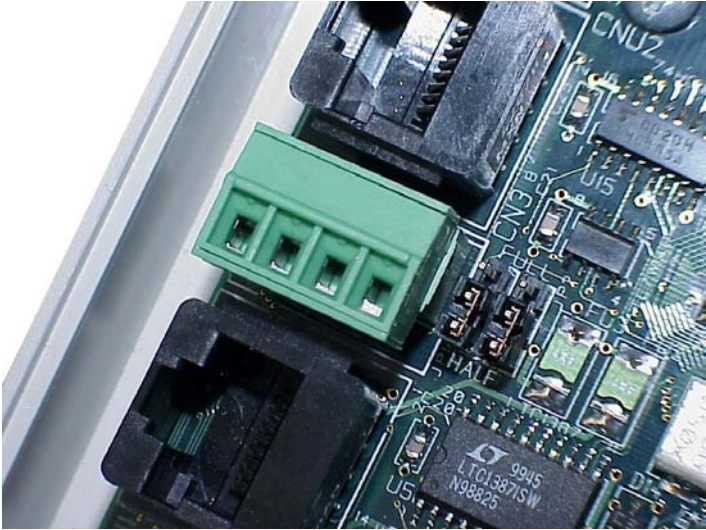

Figure 26: RS-485 Terminal Block (CN3) and Duplex Selection Jumpers
- The required drive configuration will vary depending on the specific drive(s) involved. In general, most parameters are freely configurable to match the gateway's port settings (baud rate, parity etc.) The most critical selection, however, is that if the drive is directly connected to the gateway via 2-wire mode, then the drive must be properly configured for 2-wire RS-485. Note that this may involve hardware configuration in addition to parameter changes. For example, G7/Q7/H7-series drives have duplex selection jumpers located on the drive's control board near the communication ports. For these drives, both jumpers must be placed in the "HALF" position. Refer to Figure 26 for an example detailed view of correctly-positioned duplex selection jumpers.